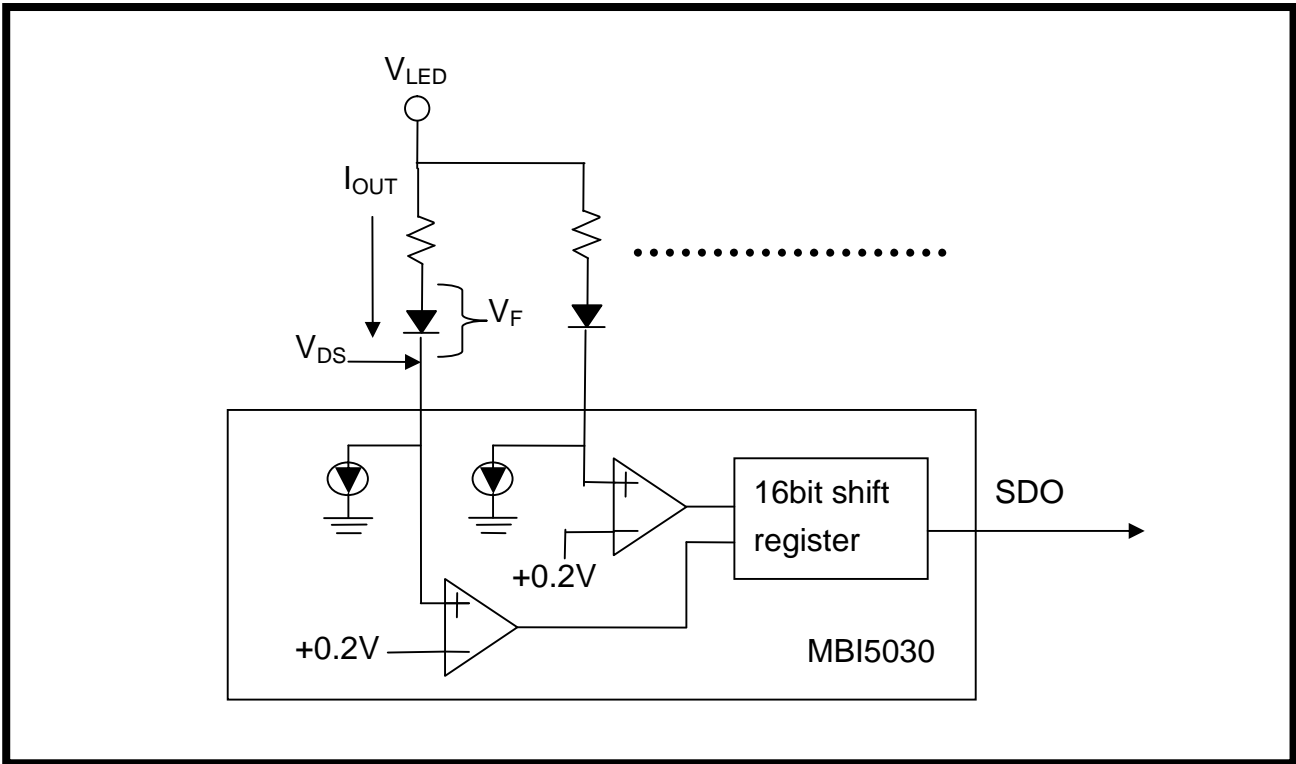

Fig. 15. The function block of MBI5030 error detection
3. The error detection principle of MBI5030 is shown as Fig. 15.